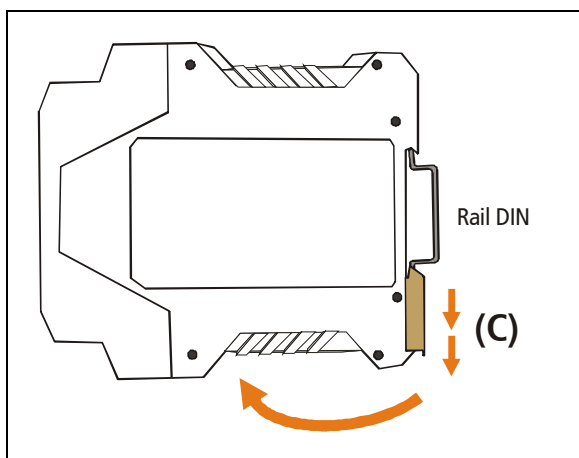

Figure 6 – Detaching the device
To detach the device off the DIN rail (figure 6), pull downwards the device's metallic clip (C) and then remove from rail.